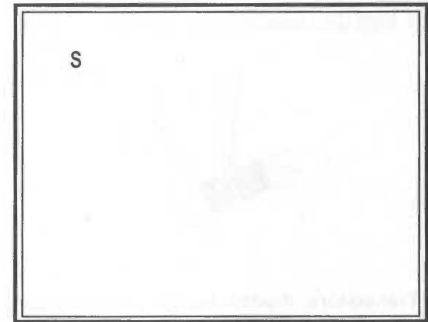
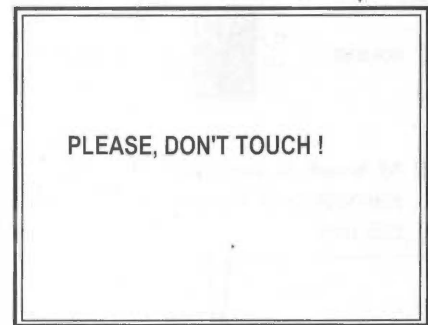

Fig. 2
Fig. 3
- ② The letter "S" appears at the upper left of the screen.(Fig. 2)
- ③ Press **MENU** key and **PHASE** key simultaneously.
- ④ The screen display "PLEASE DON'T TOUCH".(Fig. 3)